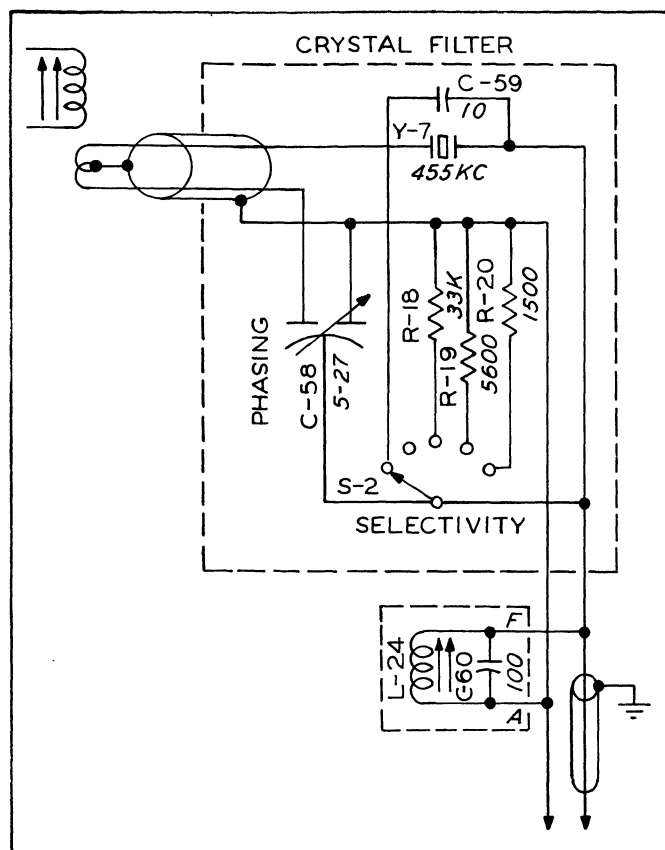

Figure 4-2. 75A-3 Crystal Filter
e. **CRYSTAL FILTER** (see Figure 4-2). The output of the second mixer is fed to the crystal filter. A 455-kc crystal, Y-7, acts as a very high Q resonant circuit which will pass only a narrow band of frequencies peaked sharply at 455 kc.